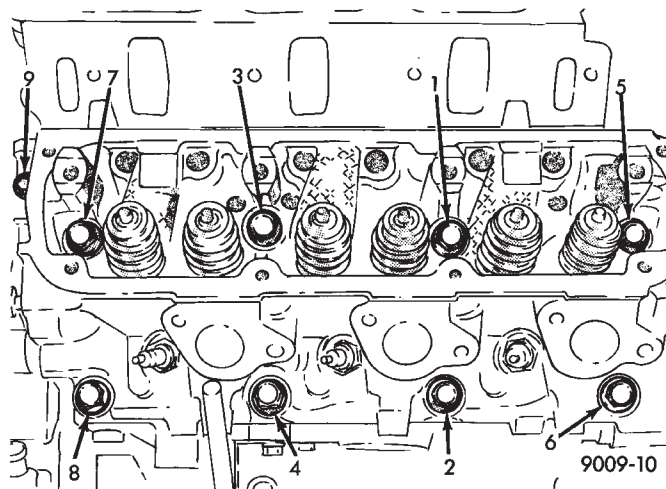

Fig. 7 Cylinder Head Bolts Location
- (1) Drain cooling system refer to Cooling System Group 7 for procedure and disconnect negative battery cable.
- (2) Disconnect coil wires, sending unit wire, heater hoses and by-pass hose.
- (3) Remove closed ventilation system, evaporation control system and cylinder head covers.
- (4) Remove exhaust manifolds.
- (5) Remove rocker arm and shaft assemblies. Remove push rods and **identify to insure installation in original locations.**
- (6) Remove the 9 head bolts from each cylinder head and remove cylinder heads (Fig. 7).